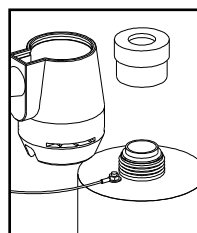

FIGURE 3B
- f) Re-assemble the quartz sleeve in the UV chamber allowing the sleeve to protrude an equal distance from both ends of the UV chamber (Figure 3B).